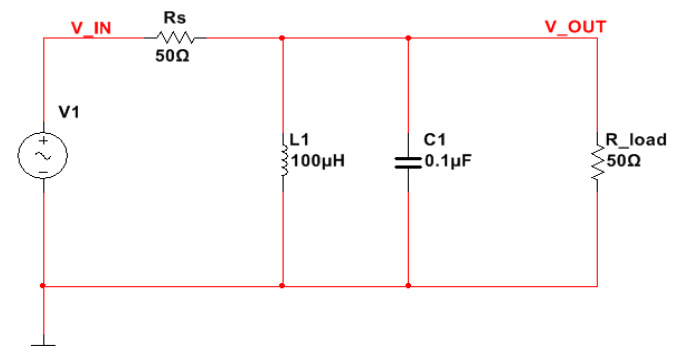

Figure 1 – Band-Pass Filter
1. Using an ideal inductor for L1, calculate the following for the circuit of Figure 1:
2. Using an ideal inductor for L1, simulate the circuit of Figure 1:
- a. The circuit of Figure 1 (BPF)
- b. A series resonant circuit (BRF) using the same component values as Figure 1 (including a 78F101J inductor)
5. Compare your results for the circuit of Figure 1 to your prelab calculations and simulations in an Excel data table including percent error calculations (see the example on page 1).